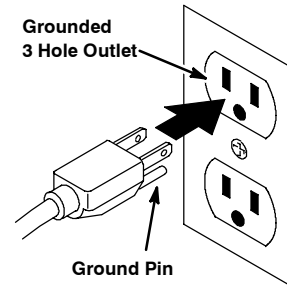

FIG. 5
2. Plug the power cord into a grounded wall outlet (Figure 5).